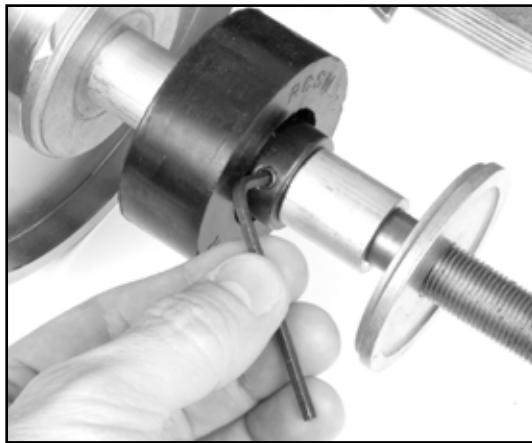

Fig 49 - Loosen the set screw that secures the right-side bearing collar
10. Loosen the set screw that secures the right-side bearing collar (fig 49) and slide the bearing off the shaft. If the set screw has scarred the shaft, it may be necessary to file the burr off the shaft with a small, fine flat file or piece of emery paper.